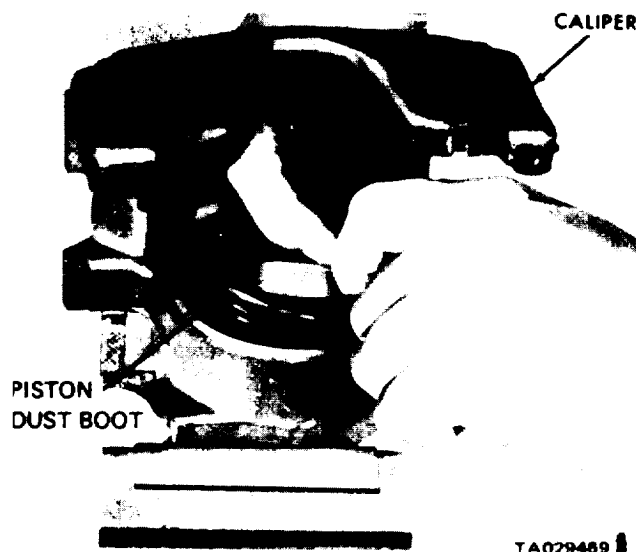

Figure 22-9. Installing Piston Dust Boot.
- (4) Coat the new piston boot with brake fluid. Use your finger to install the boot in the caliper by working it into the outer groove (figure 22-9).